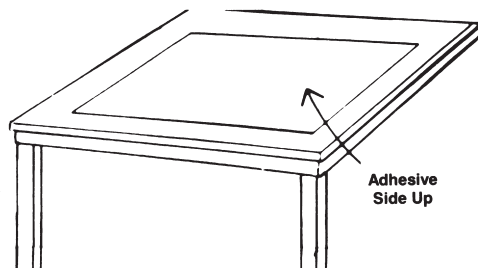

Figure 6
**B. Drop material to be premasked into position face down on tape (Figure 6).**